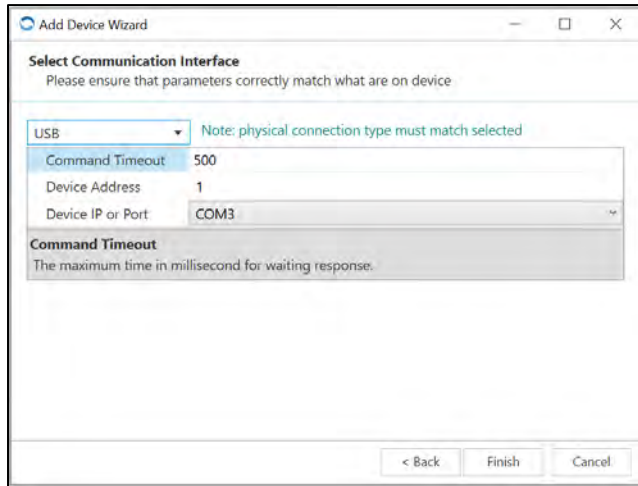
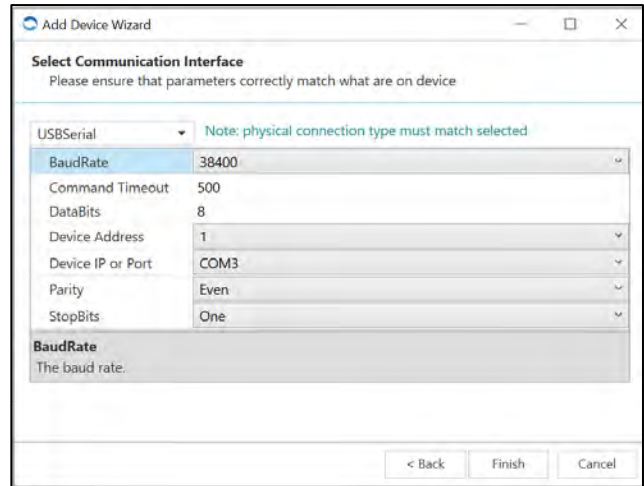

Figure 9
Figure 10
- **Connection Type:** Select the type of connection you have between your SP-001 / SP-002 and your computer. USB connection is displayed in **Figure 9**. USB Serial connection is displayed in **Figure 10**.